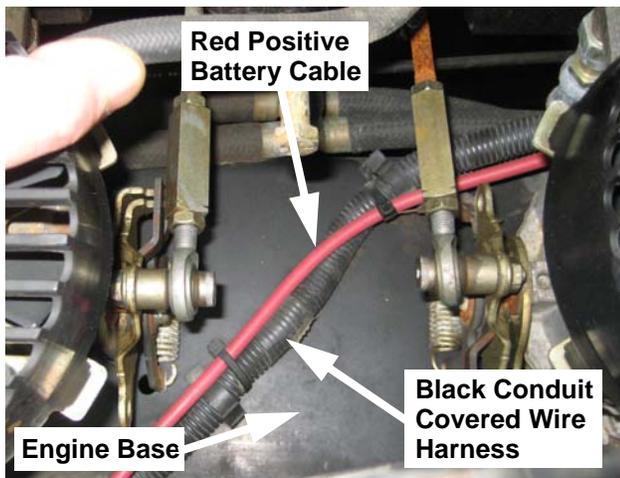

FIGURE 1
3. Visually check the red positive battery cable routing. The red positive battery cable should be routed and secured to the black conduit covered wire harness as shown in Figure 1.
4. If the red positive battery cable is Not secured as shown in Figure 1, and is just laying on the engine base, inspect the cable for any wear or damage in the location of the hydraulic pump linkage.